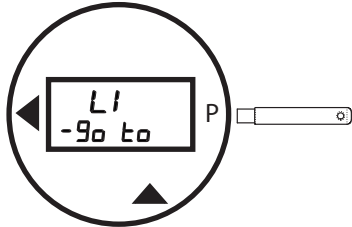

Figure 18.
- Pass the wand over the **P** twelve times to reach the **L1 -Go to** menu selection (Figure 18).